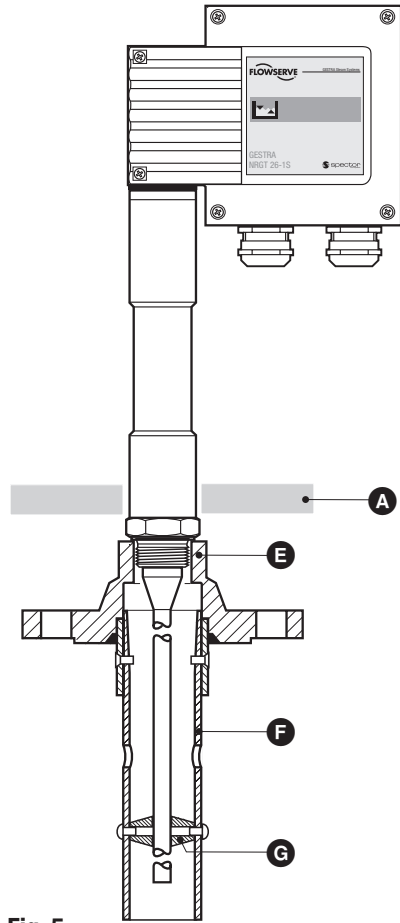

Fig. 5
2. Place flange **E** together with level electrode onto connection standpipe and secure with bolts. Tighten bolts in diagonally opposite pairs. **Fig. 5**